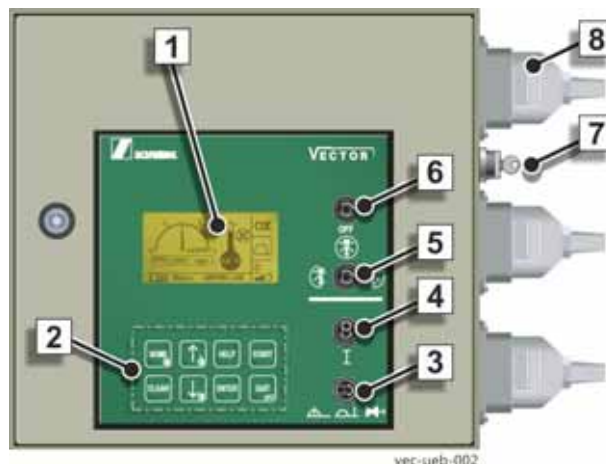

Fig. 91
The messages are shown on the display of the VECTOR control system (1) (**Fig. 91**) and, in abbreviated form, on the display of the remote control unit, see (“**Remote control**” on page 537).